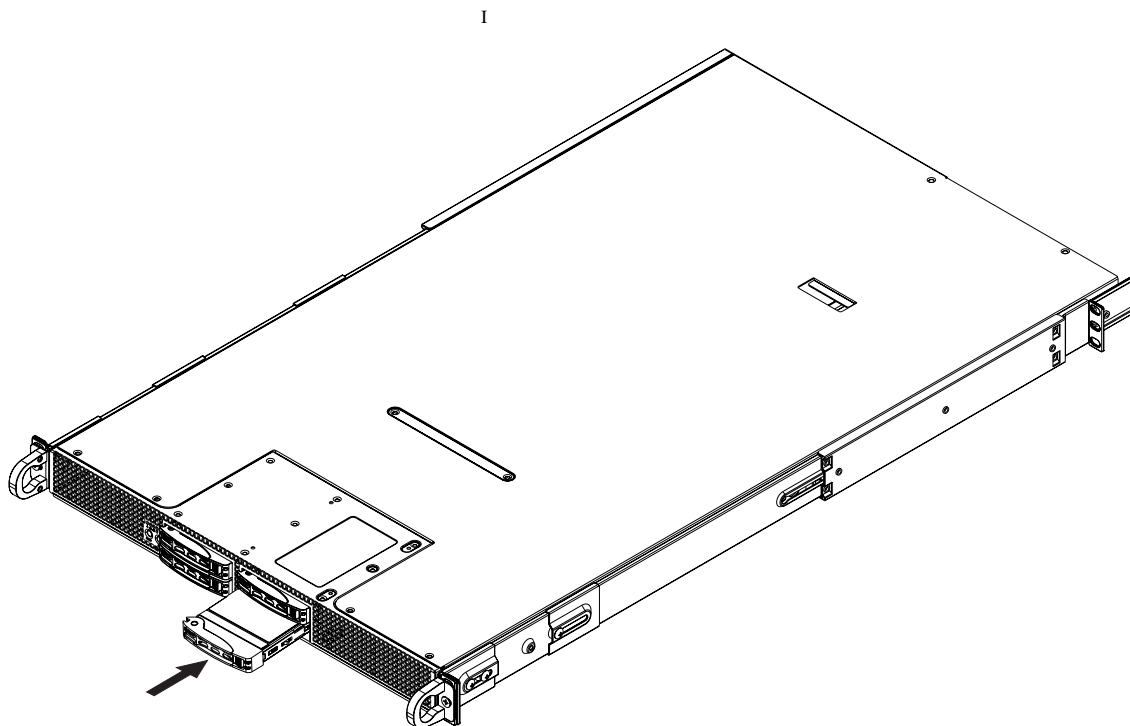

Figure 6-3 Hard Disk Drive Installation Example
6. Using your thumb, push against the upper part of the hard drive handle until the assembly clicks into the locked (fully seated) position, see Figure 6-3 on page 49 for an example.